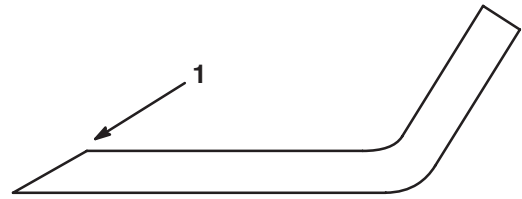

Figure 33
1. Use a file to sharpen the cutting edge at both ends of each blade (Fig. 33). Maintain the original angle. The blade retains its balance if you remove the same amount of material from both cutting edges.